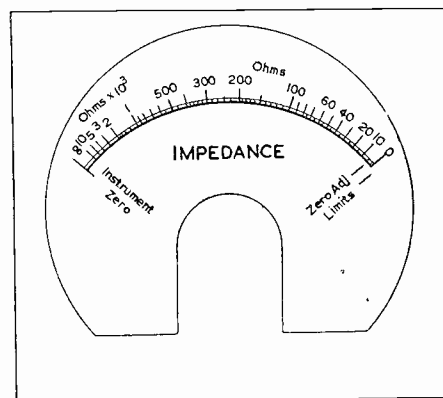

Fig. 8. Scale of impedance meter
impedance from which an equal variation may occur in either direction. The use of actual resistances to calibrate would result in the calibration at one extreme value. For this reason the method adopted is to calibrate the instrument in terms of angular deflection for various values of A.C. current. From these values a scale is calculated, making allowance for the effect of the transformer shunt impedance at one end, and the total series impedance (composed of the instrument and referred series losses in addition to the phase-changing impedance) in limiting the range. Fig. 8 shows a typical scale produced in this way. The values are for the middle range, using 10/1 transformer ratio, so that the same scale may be used with a multiplying factor of 100 for the direct range, and with a dividing factor of 100 for the lowest range.
**Range-changing Transformer.**—This is wound using a core of laminations of the waste-free type with a  $\frac{3}{8}$  in. centre limb (M.E.A. No. 35; Sankeys No. 70; G. L. Scott No. 120) square section. If possible, Mumetal should be used. The calibration given is with a transformer using Mumetal. The use of an alternative transformer iron will reduce the shunt impedance, and restrict the top end of the scale (the space between the movement zero and infinity impedance will be increased, see Fig. 8). Windings in order as follows:—